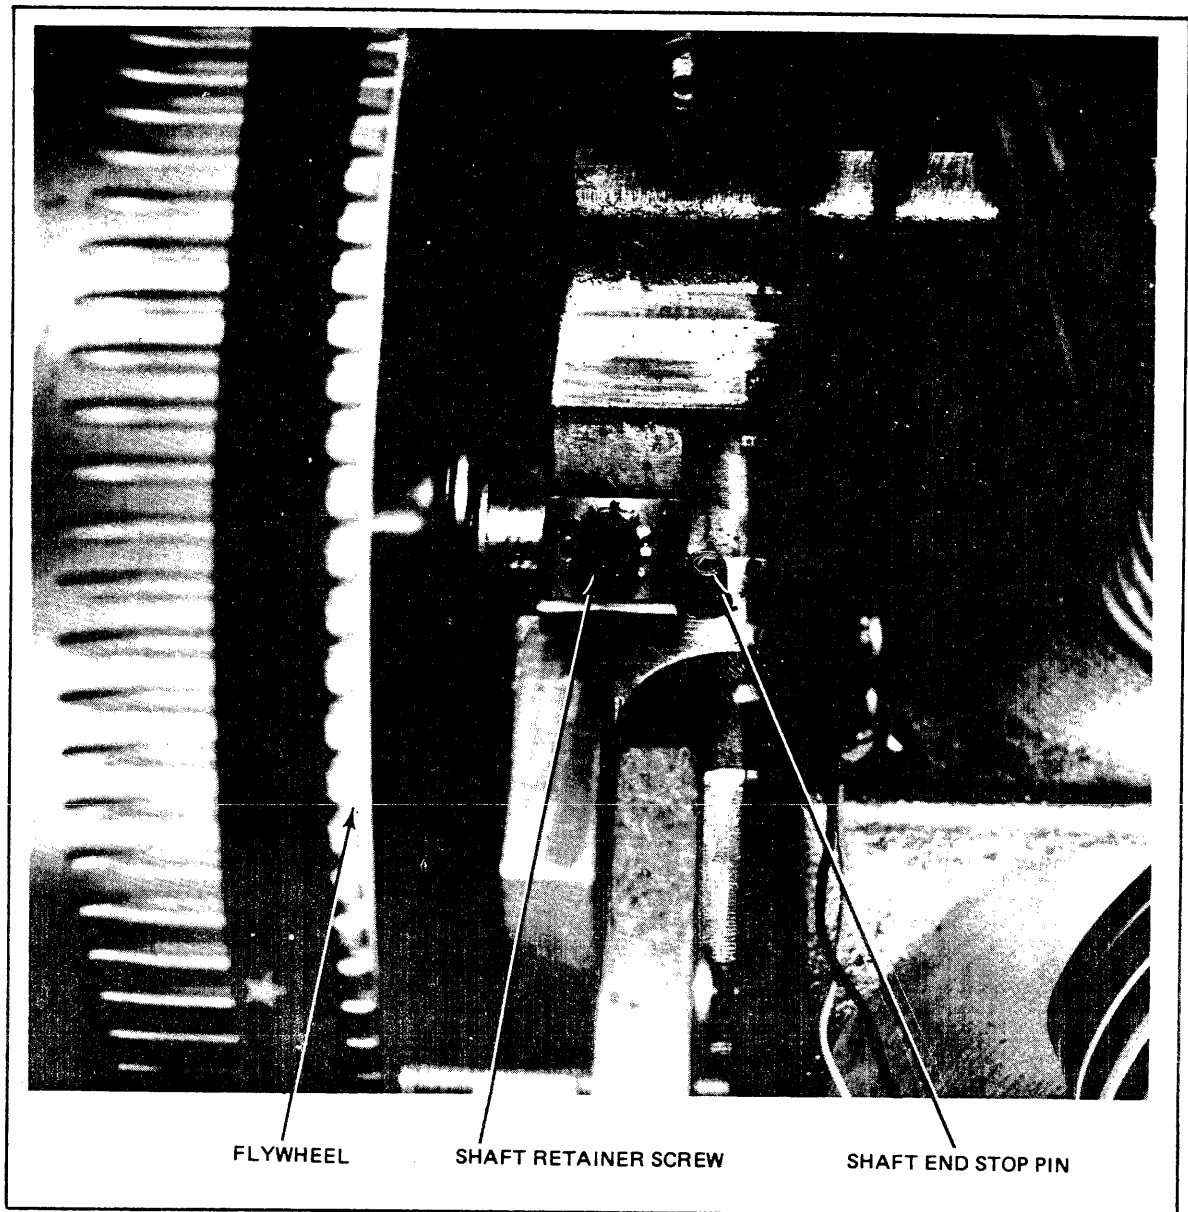

Figure 59 Positioning Flywheel Shaft
- g. Be sure that rear end of flywheel shaft is against the pin stop in the main casting (figure 59), then insert and tighten screws that hold each end of the flywheel shaft.